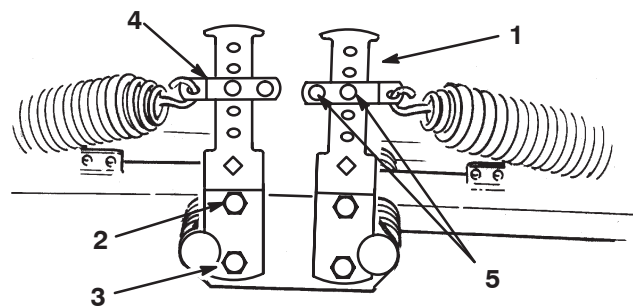

Figure 11
2. Secure the other end of the spring to the appropriate hole (see below) on the front and rear counterbalance arms (Fig. 11 & 12) with the spring shackle, clevis pin, and cotter pin.
4. Secure the bottom of the counterbalance arm to the frame with the capscrew and nut previously removed. Tighten the top capscrew (Fig. 11).